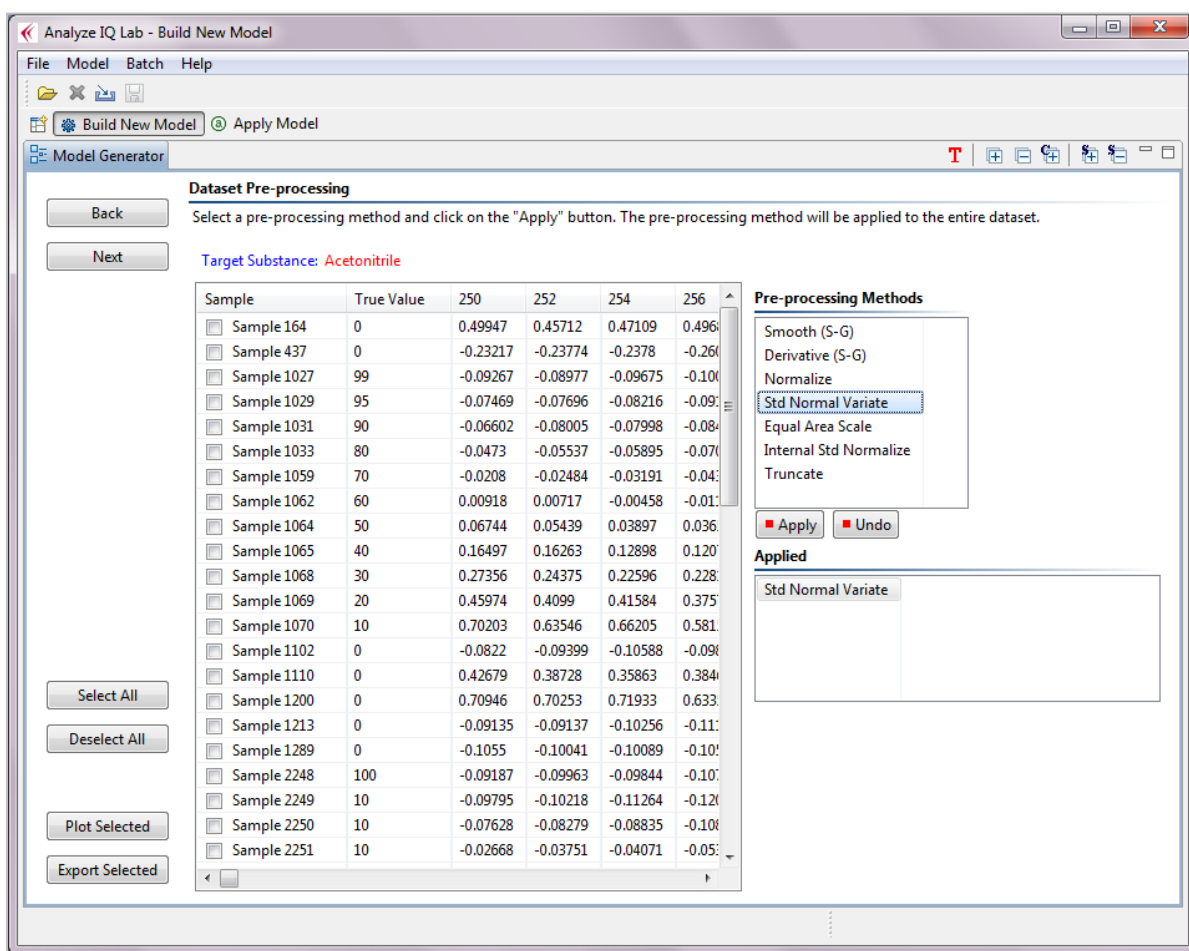

Figure 78: Building a quantification model: dataset pre-processing
- Click on *Next* to view the spectral samples of the dataset. As shown in Figure 78, for this example we will apply the Standard Normal Variate transform. (Refer back to Section 4.3.1 for details of the pre-processing methods.)